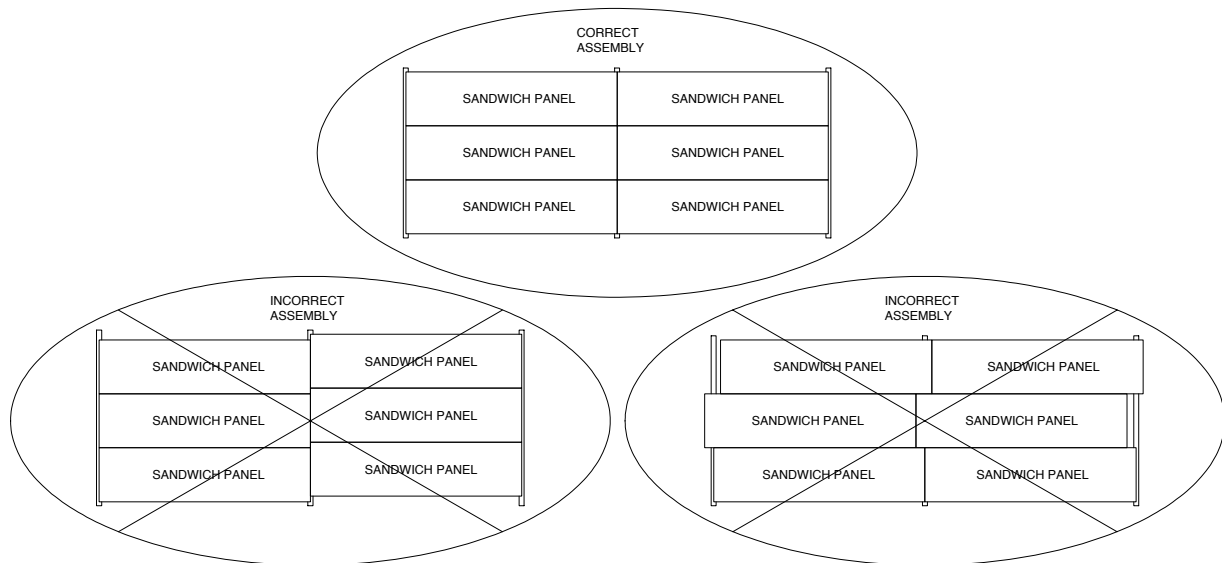

Fig. 23. Alignment of horizontal and vertical joints
- Regardless of the core type, it is important to maintain alignment of horizontal and vertical joints – see fig. 23.